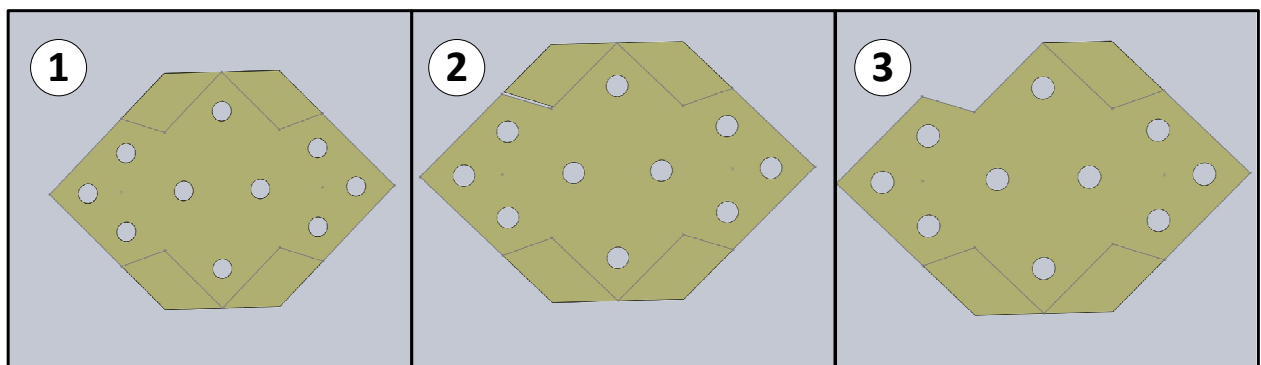

Figure 9: Cut off edge with blade aligned on the outside of the line
- B. First, cut off lines as shown in Figure 9(1).
- C. To make the inside cuts, first make the cut shown in Figure 9(2) and then make the next cut shown in Figure 9(3), then without moving the piece, turn off the band saw and wait for it to stop. Then, remove the piece and make the next cut.